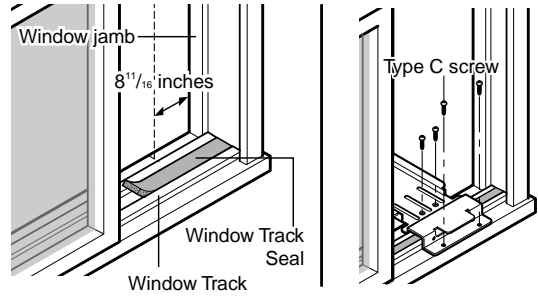

Figure 23
2. Remove protective backing from window track seal and apply seal to window track. (See Figure 23)
3. Measure and lightly mark a line 8-1/4 inches from window jamb. Center the support bracket assembly on the window track and fasten with 4-type C screws. (See Figure 23)